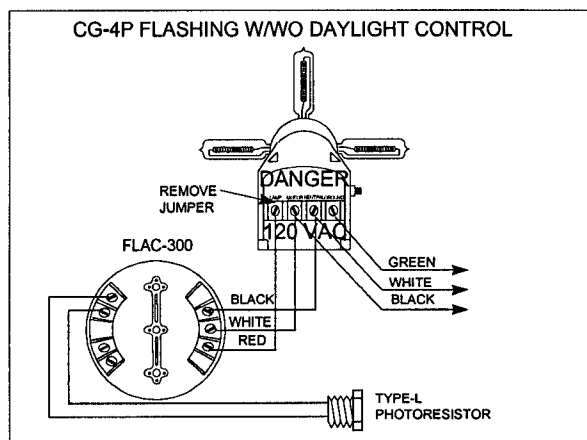

Figure 4-4
- h. If flashed, a FLAC-300 and type-L daylight control will be used and wired as shown in Figure 4-4.